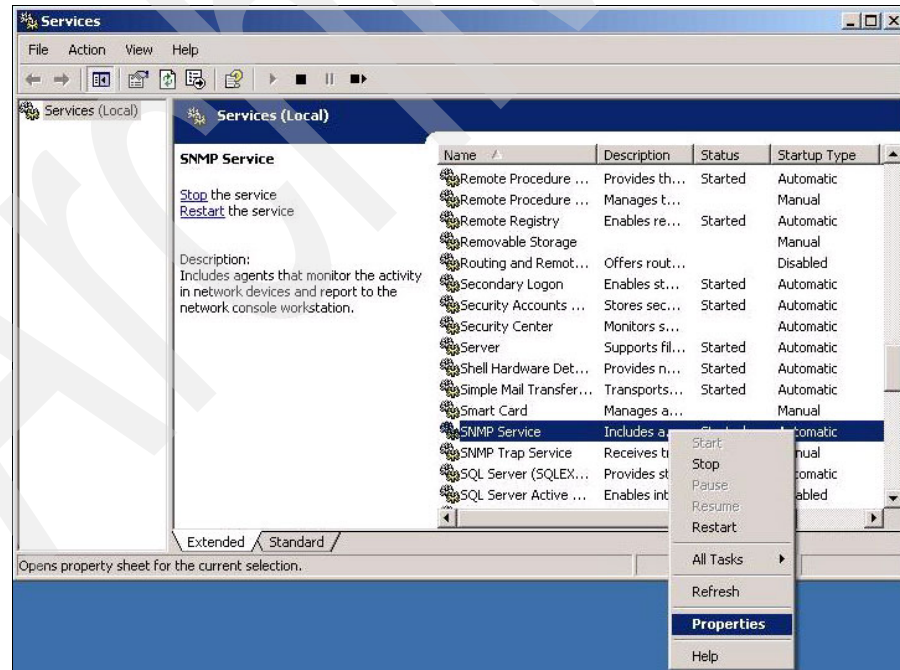

Figure 10-7 Properties menu
- Locate and right-click **SNMP Services**. Select **Properties** as shown in Figure 10-7.